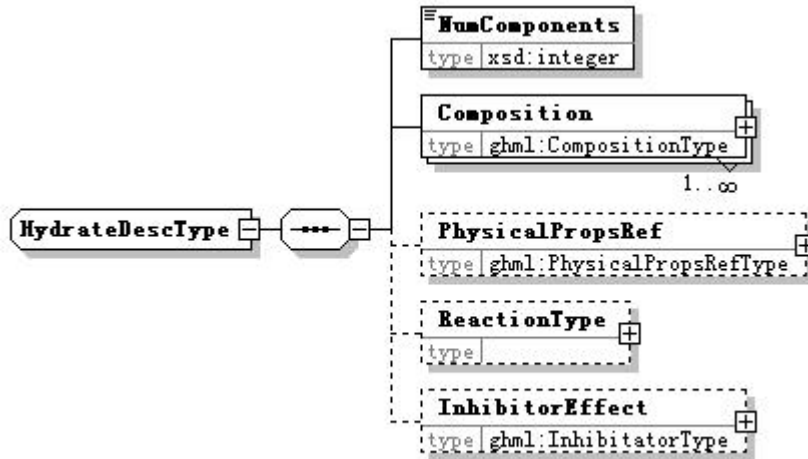

Figure 6. HydrateDescType
- **HydrateDescription** [HydrateDescType] – Hydrate properties and behavior (Figure 6).